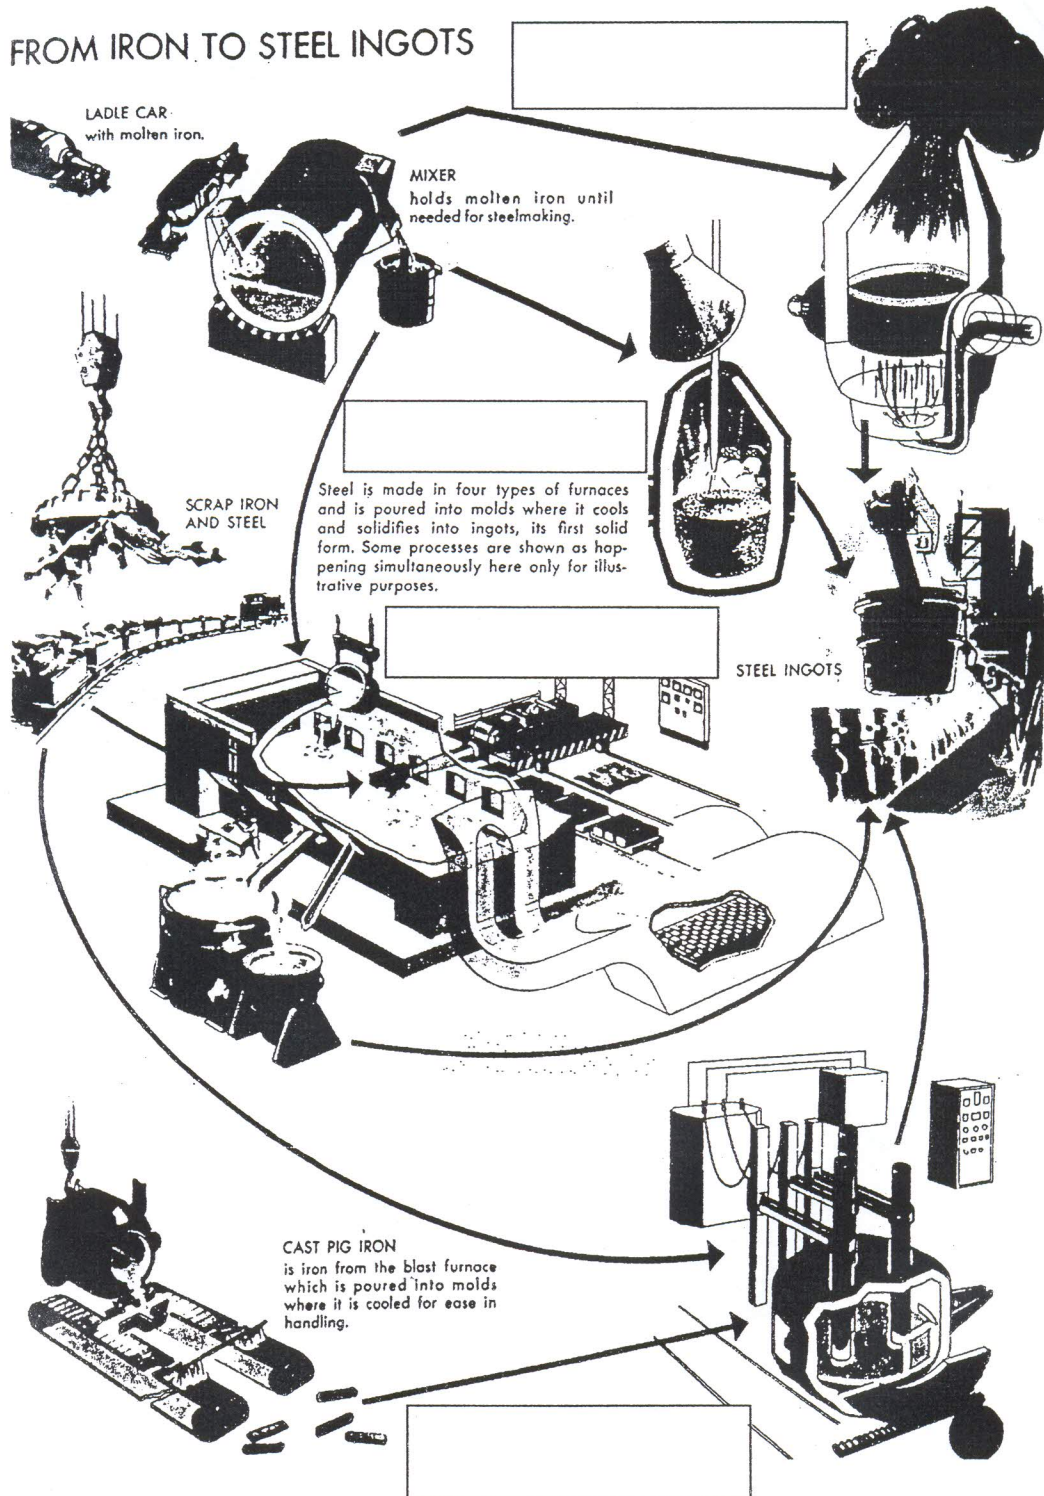

Figure 2: Production of Steel
- (c) The Figure 2 is the second stage of making iron to steel ingots. Iron will be melted by the furnaces before it becomes steel ingots. Fill in the blanks of Figure 2(Production of steel) the types of furnaces on page 2.